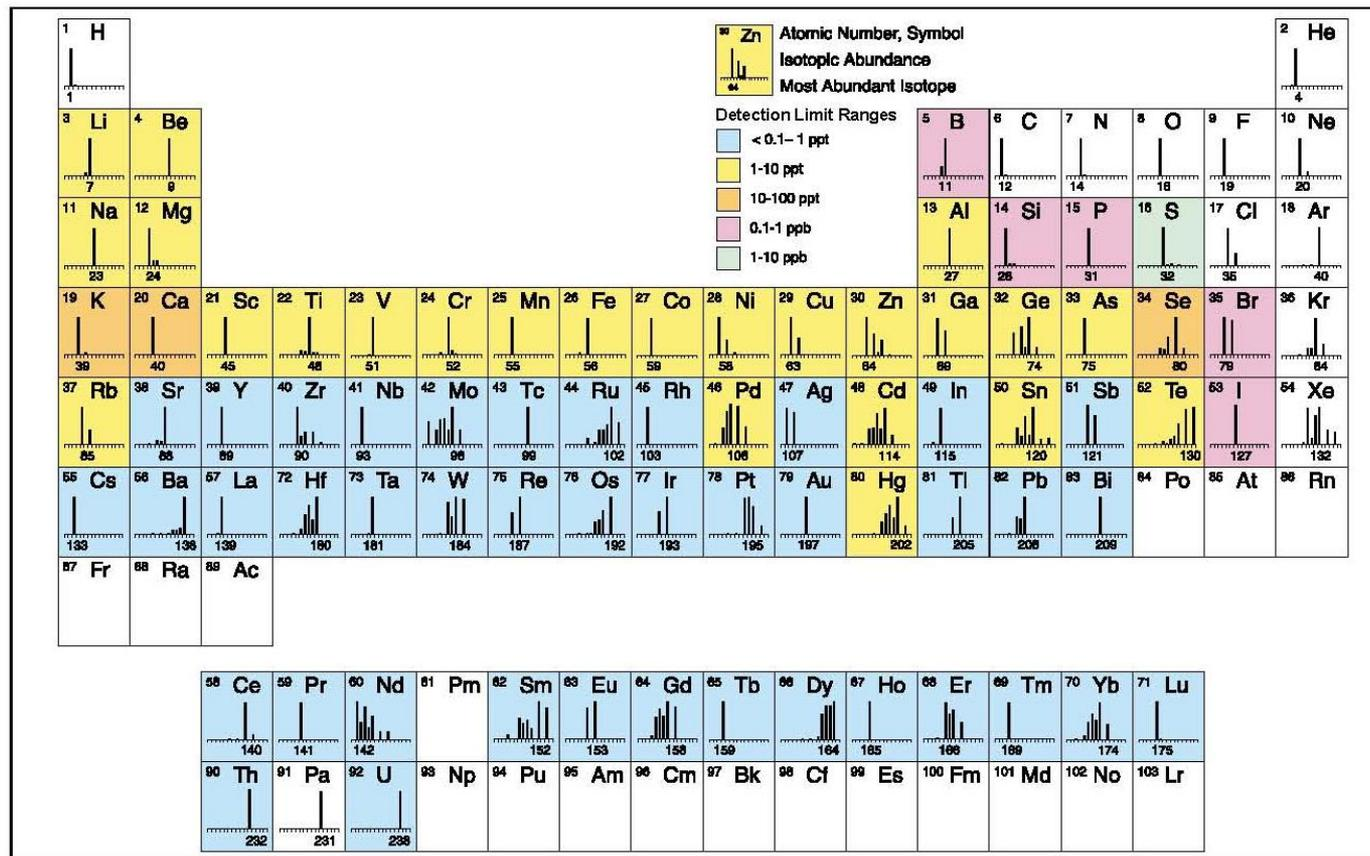

Figure 1. Elements determined by ICP-MS and approximate detection capability.
**FIGURE 10-11** An echelle spectrometer with segmented array of CCDs. (From T. W. Barnard et al., *Anal. Chem.*, **1993**, 65, 1231. Figure 1, p. 1232. Copyright 1993 American Chemical Society.)